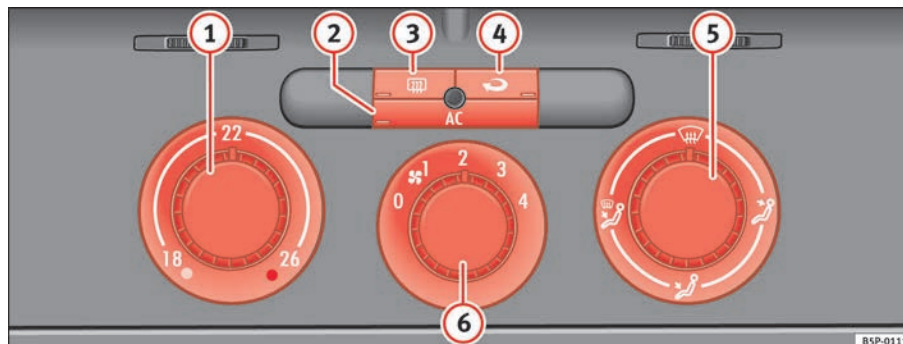

Fig. 128 On the dash panel: Climatic controls
- Turn the temperature selector ⇒ fig. 128 ① clockwise to select the required temperature.